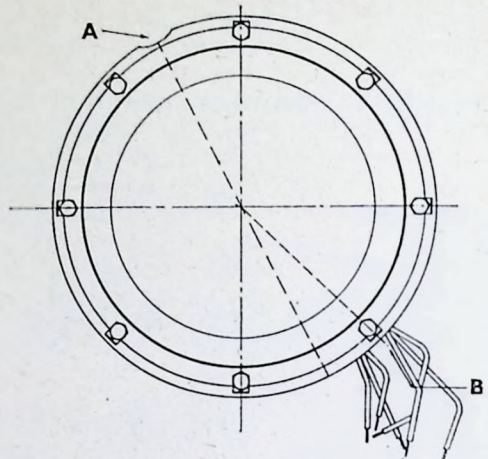

FIG. 77.—Positioning front field piece.
When assembling front outer field piece (11) note that the cut-out (A, Fig. 77) must be positioned with respect to the wire grommet (B) as shown.